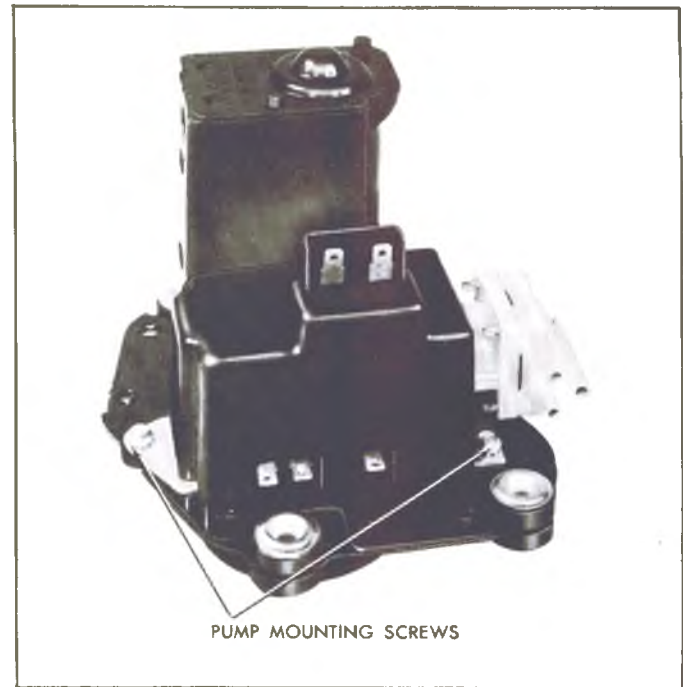
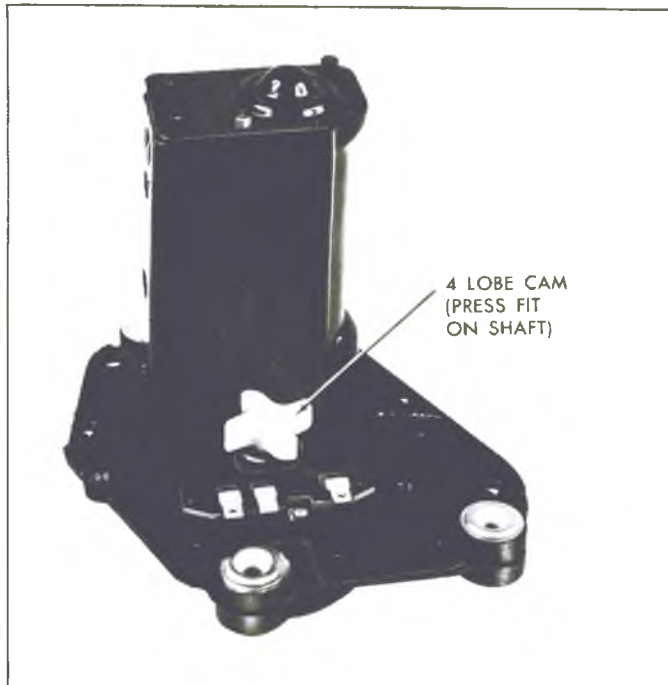

Fig. 43--Washer Pump Attaching Screws
Fig. 44--Washer Pump Drive Cam
2. Remove washer pump drive cam as required (figs. 43 and 44). The cam is pressed on the shaft but can be wedged off by using two screwdrivers between cam and plate.
The positive displacement washer pump used on the two-speed non-depressed park wipers (fig. 43) use a pump mechanism consisting of a piston, piston spring and valve arrangement driven by a (4) lobe cam, and follower assembly (fig. 45). The cam is attached to one shaft of the wiper motor output gear (fig. 44). Programming is accomplished electrically and mechanically by a relay assembly and ratchet wheel arrangement.
2. Remove two (2) pump mounting bolts.
**CAUTION:** Install washer multiplug harness connector with battery lead on terminal with no tang (fig. 43). Incorrect installation of connector will result in direct ground and destroy wiper motor fuse.